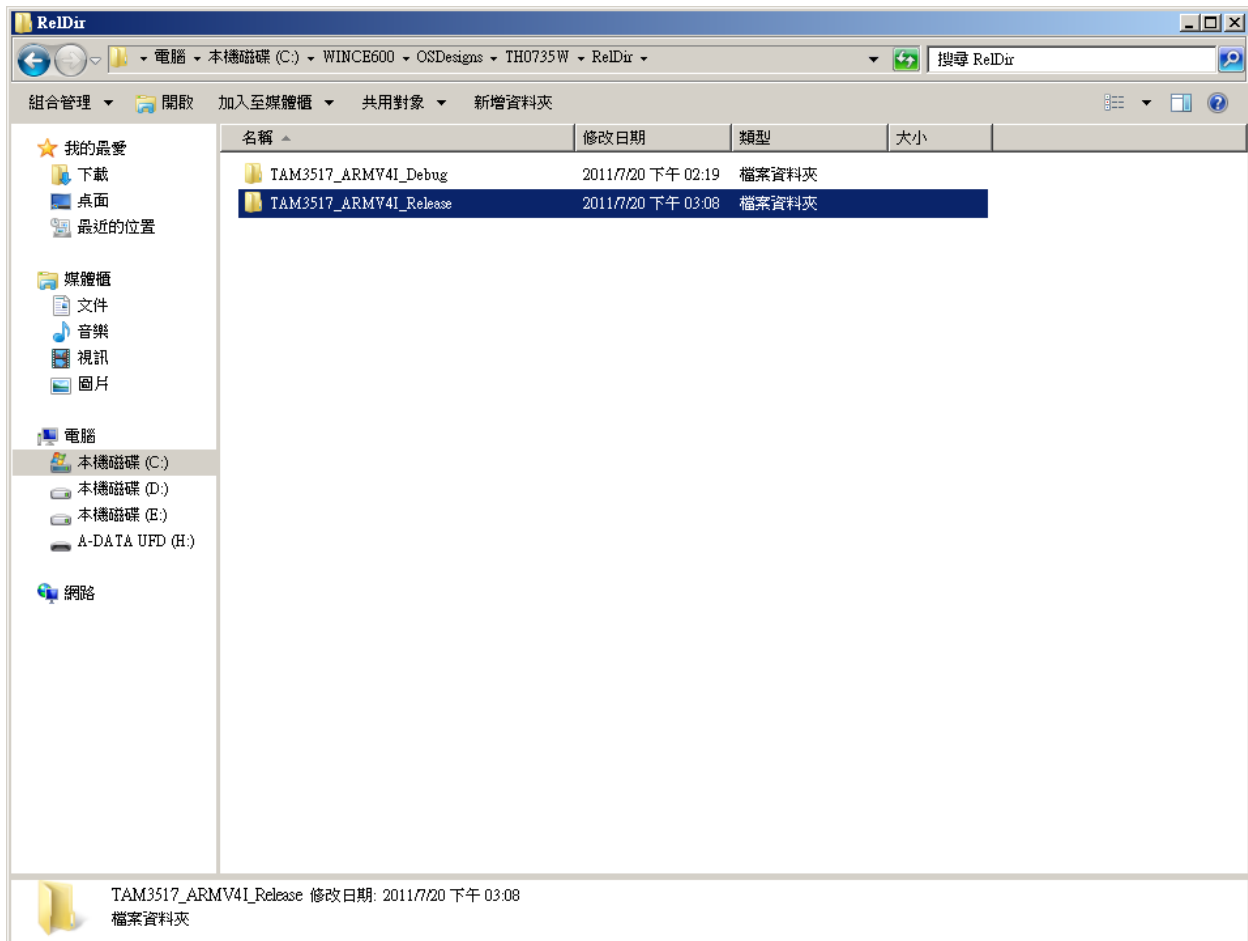

Figure 13
- Go to C:\WINCE600\OSDesigns\TH0735W” and open the folder “TAM\_3517\_ARMV4I\_release” (See figure 13). The folder contains files named: MLO, EBOOTSD.nb0, NK.bin (These files are needed for booting from a SD-card)